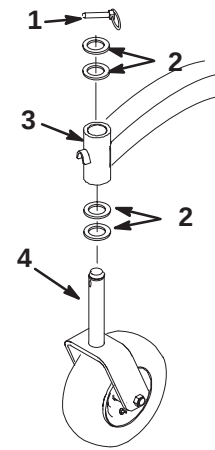

Figure 63
2. Remove the locking pin and spacer(s) from the top of the caster wheel fork (Fig. 63).
6. Inspect the caster wheel fork for wear and replace if necessary (Fig. 63).
7. Slide the caster wheel fork through the bushings in the mounting tube. Replace the spacer(s) onto the fork and secure with the retaining ring (Fig 63).